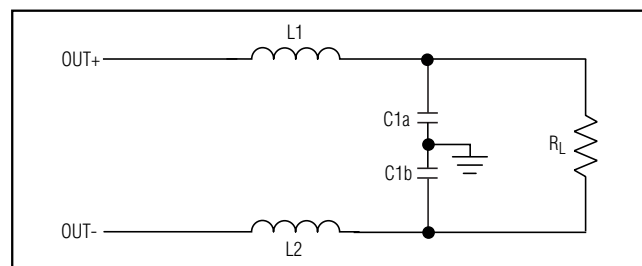
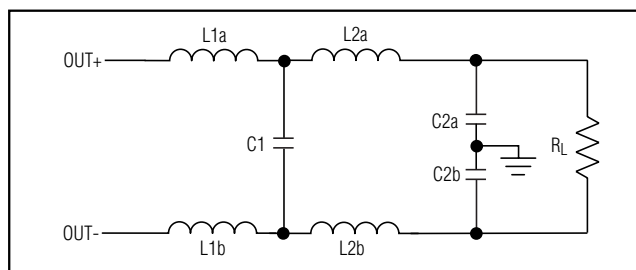

Figure 4b. Balanced 2-Pole Filter
Figure 4d. Balanced 4-Pole Filter
A Butterworth lowpass filter is chosen for its flat passband and nice phase response, though other filter implementations may also be used. Three examples are presented below. The filter parameters for balanced 2-pole (Figure 4b) and 4-pole (Figure 4d) Butterworth filters are taken from *Electronic Filter Design Handbook* by Arthur B. Williams, McGraw Hill, Inc. These filter designs assume that the load is purely resistive and load impedance is constant over frequency. Calculation of filter component values should include the DC resistance of the inductors and take into account the worst-case load scenario:
• Balanced 2-Pole (Figure 4b):
• Balanced 4-Pole Filter (Figure 4d)